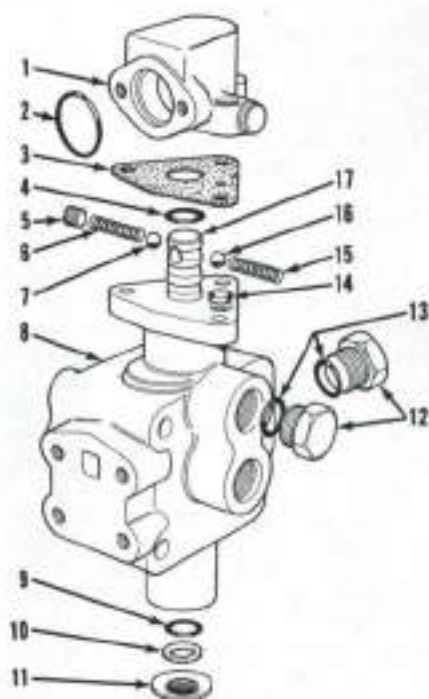

Fig. 271—Exploded view of three-way valve showing component parts and their related positions.
340. The three-way valve (Fig. 271) is mounted on end of rockshaft cylinder and is used to control flow of oil to either rockshaft cylinder or to single acting remote cylinder. The valve control lever can be moved to four different positions: 1, 2, L and L/L.
Valve spool (17—Fig. 271) and body (8) are serviced as a complete unit only. Make certain breather (11) is clean and not damaged. Renew "O" rings and lubricate all parts with hydraulic oil during assembly.